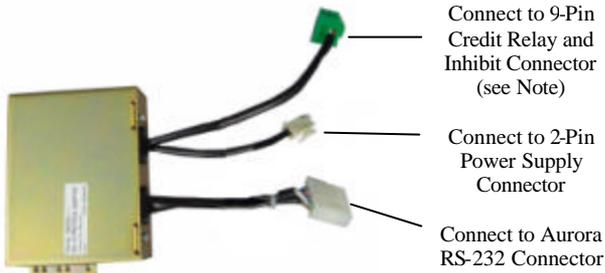

Figure 12. 24 VAC/DC High-Level Pulse PAA
- a. For 24 VAC/DC High-Level Pulse PAA, make the connections in **Figure 12**; for connector pin-signal assignments, refer to Technical Bulletin **GPB3T04** (latest revision).